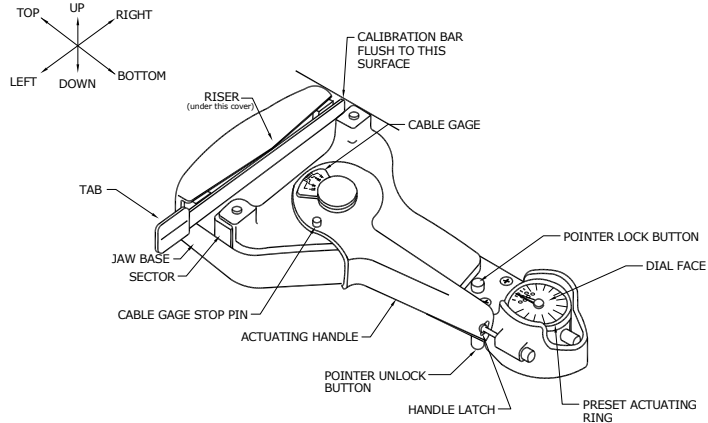

Figure 1 Cable Tensiometer, Typical
**BEFORE USING INSTRUMENT** – Study diagram, see below Figure 1, in order to become familiar with nomenclature and part orientation.
**DO NOT ATTEMPT** to take cable tension readings with the Pointer Lock Button depressed (down). See Fig. 1. If the Pointer Lock Button is depressed during tension reading, a false reading will result due to the friction of the brake mechanism.
In taking readings among closely grouped cables or in awkward or blind locations, let the Actuating handle remain open with the instrument clamped on the cable. With the instrument clamped in this position, press the Pointer Lock button down. Remove the Tensiometer by compressing the Actuating Handle against the side of the case and remove. The dial indicator pointer will be locked in a position directly over the tension reading obtained from the cable. To release this reading, press up on Pointer Unlock Button (See Figure 1).
Locate as follows: Grasp the Calibration Bar Identification Tab in the left hand. Place the Bar in the instrument with the Identification Tab facing the operator (toward bottom of instrument, see Fig.1). In this position, the calibration reading will be visible. Pre-set the dial to the smallest cable size noted; then slowly release the Actuating Handle, allowing the jaws to grip the Calibration Bar. Repeat several readings and average. The average thus obtained on the dial should correspond within (+/-) 2 % of the value marked on the Identification Tab (Test Bar).